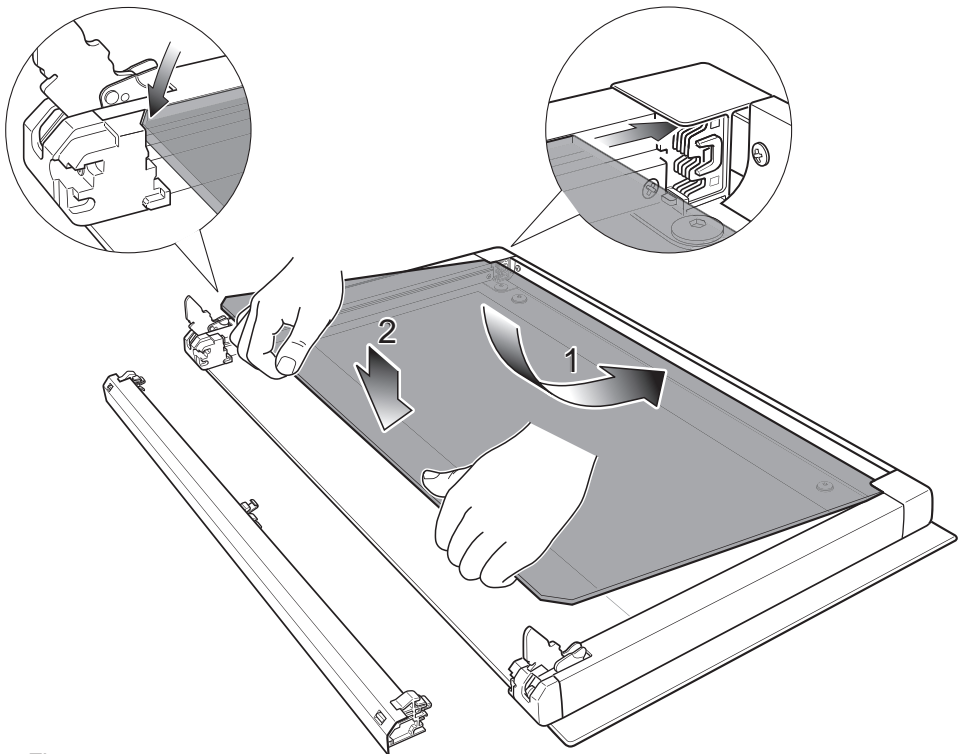

Fig. 9.16
1. Insert the inner glass pane in the uppermost pair of grooves and push it slightly (arrow 1 in figure 9.16).
2. Gently lower into place (arrow 2 in figure 9.16).